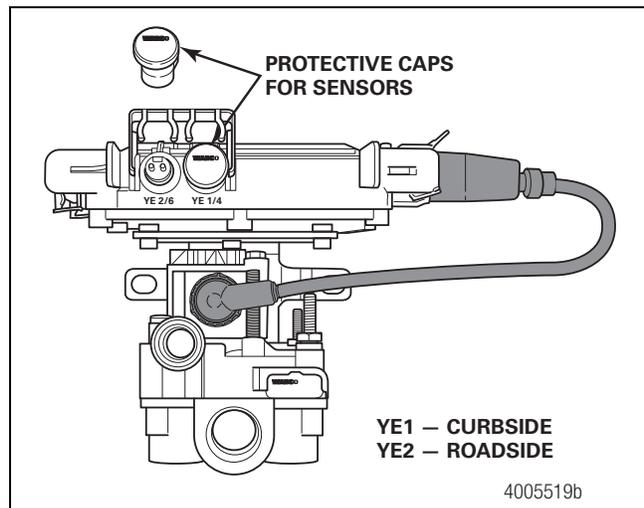

Figure 6
6. Remove the protective caps from the YE2 and YE1 sensor connectors. Figure 6.